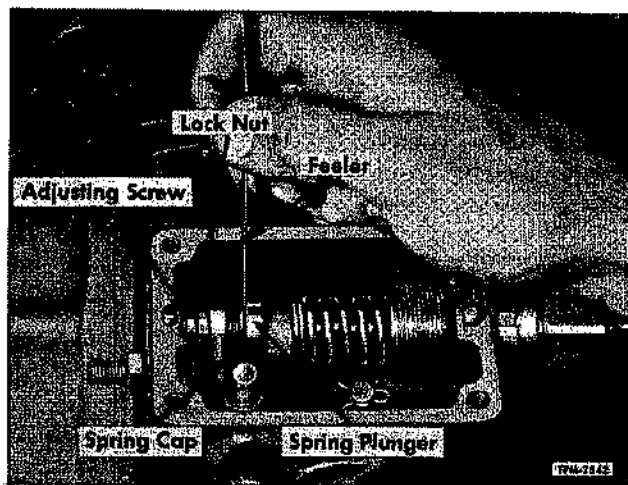

Figure 57—Adjusting Low Speed Spring Gap
4. Measure gap between low speed spring cap and plunger (fig. 57). If gap is not between .001" to .002", loosen lock nut and turn adjusting screw until desired gap is obtained, then tighten lock nut. Recheck gap after tightening lock nut.